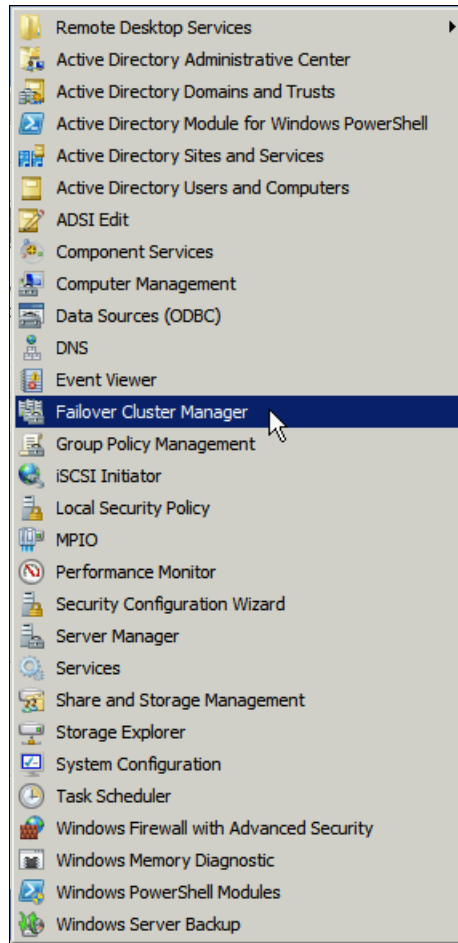

Figure 19-13 The Failover Cluster Manager
1. To open the failover cluster snap-in, click **Start**, click **Administrative Tools**, and then click Failover Cluster Management as shown in Figure 19-13 on page 567.